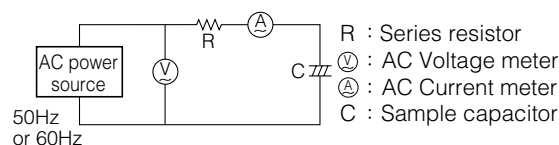

Fig. 2-5
- (1) In the circuit shown in Fig.2-5 a series resistance "R" is selected from Table 2-1 in accordance with the nominal capacitance of the capacitor to be tested.